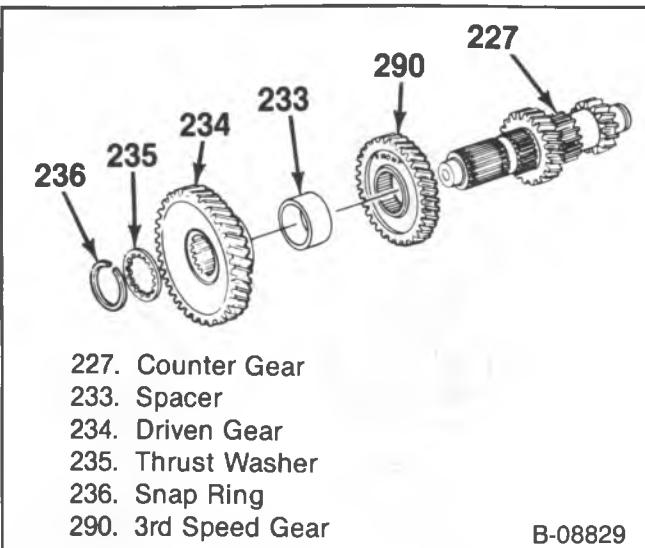

Figure 22—Countergear
Disassemble (Figure 22)
Assemble (Figure 22)
- The gear is marked "FRONT" in the web area, as shown in figure 22.
2. Spacer (233).